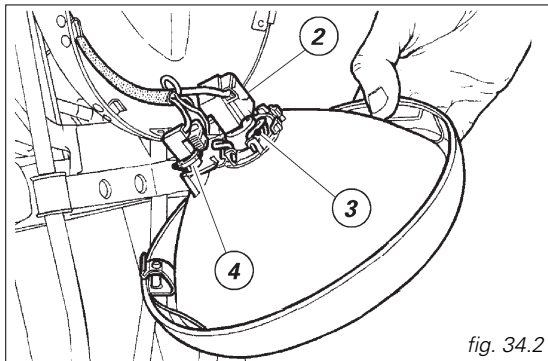

fig. 34.2
To gain access to headlamp bulbs, slacken the lower screw (1) holding the rim-reflector assembly to the body and disconnect the connector (2, fig. 34.2) from the headlamp. Release the clip (3, fig. 34.2) that secures the bulb and remove it from the socket. Replace the bulb.
To change the parking light bulb, withdraw the bulb holder (4, fig. 34.2). The bulb is of the bayonet-type: press and rotate anti-clockwise to remove. Fit the spare bulb by pressing and turning clockwise until it clicks. Fit the bulb holder again and assemble the rim-reflector assembly.